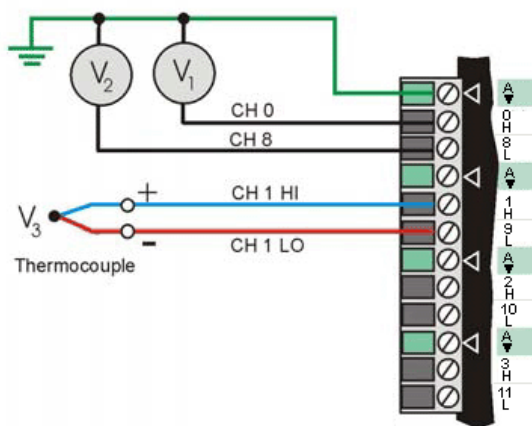

Figure 1. Single-ended voltage connections (V_1 and V_2) and differential thermocouple connections (V_3)
- Connect voltage signals as single-ended or differential connections (see Figure 1).
- Connect thermocouple signals as differential connections (see Figure 1). The negative (typically, the red) thermocouple wire connects to the channel's LO connector, and the other color wire connects to the channel's HI connector.